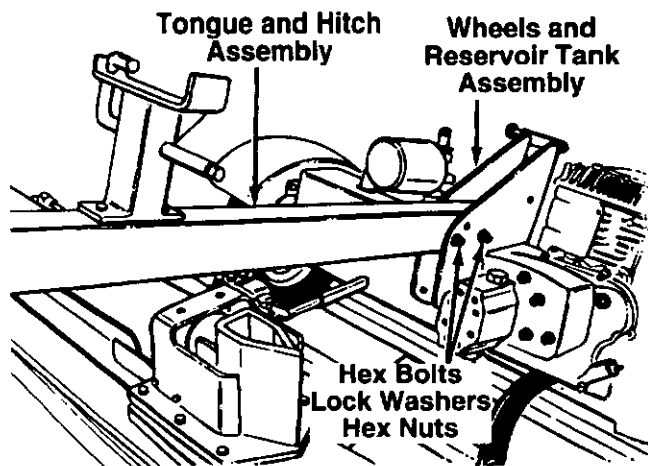

FIGURE 3.
- Place the end of the tongue and hitch assembly in between the brackets on the wheels and reservoir tank assembly. Secure with hardware just removed. See figure 3.